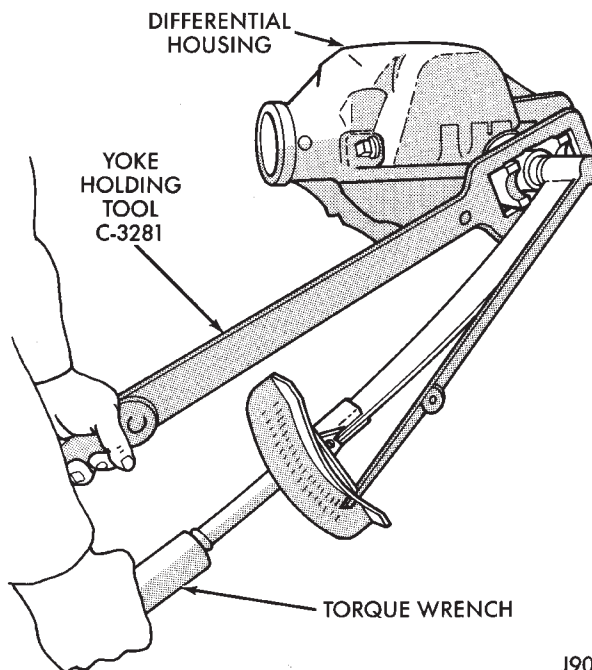

Fig. 57 Tightening Pinion Nut
(8) Use Flange Wrench C-3281 to retain the yoke (Fig. 57). Slowly tighten the nut in small increments